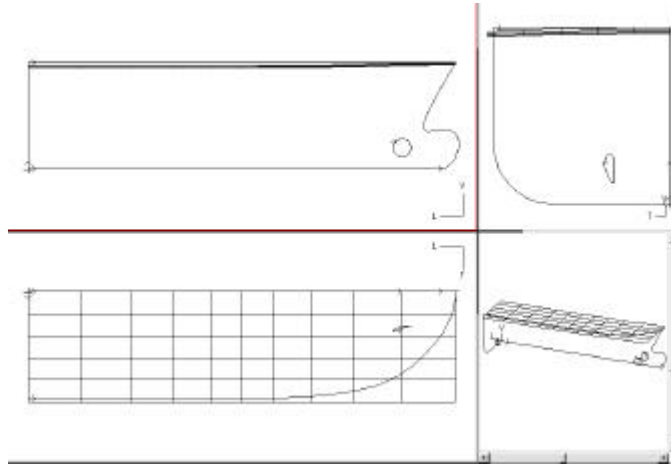

Figure 2-24: The Foredeck surface
5. View the surface in **4-view** to see the camber and sheer. It may help to turn on the **Mesh**. (See figure 2-24.)